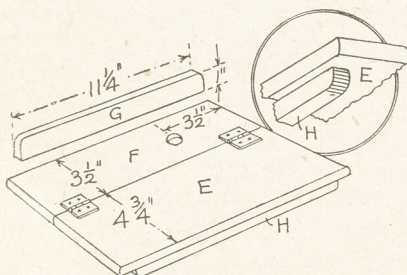
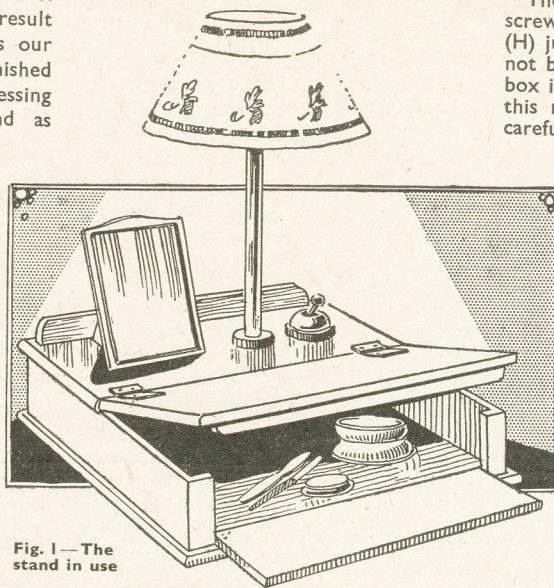

Fig. 3—Details of the hinged top
Fig. 1—The stand in use
**T**HIS is a really interesting piece of work to undertake, and the result should be most pleasing, as our illustration Fig. 1 shows. The finished article could be used for the dressing table or the bedside table, and as regards colour or finish, this depends largely on the kind of wood used in its construction. As will be seen from Fig. 1, there is an ob-long box with lid to open from the front and, if desired, with front to let down, making, in this latter case for convenience in handling the contents.
If the front of the box is to be made to open downwards, as Fig. 1, then a space of 1in. at each end of the front part (B) should be marked off and cut down and the larger piece hinged to the floor with ½in. brass hinges. The piece of wood for the lid will be marked off, as shown in Fig. 3, and cut through on the line, and the two parts then connected by a pair of ½in. hinges.